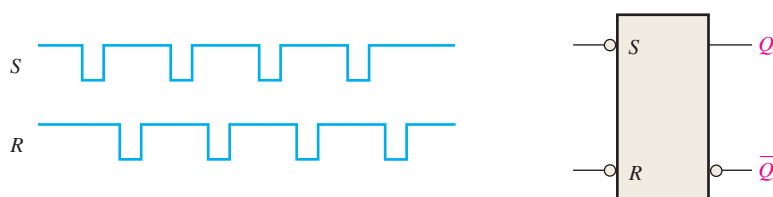

FIGURE 7-70
1. If the waveforms in Figure 7-70 are applied to an active-HIGH S-R latch, draw the resulting Q output waveform in relation to the inputs. Assume that Q starts LOW.